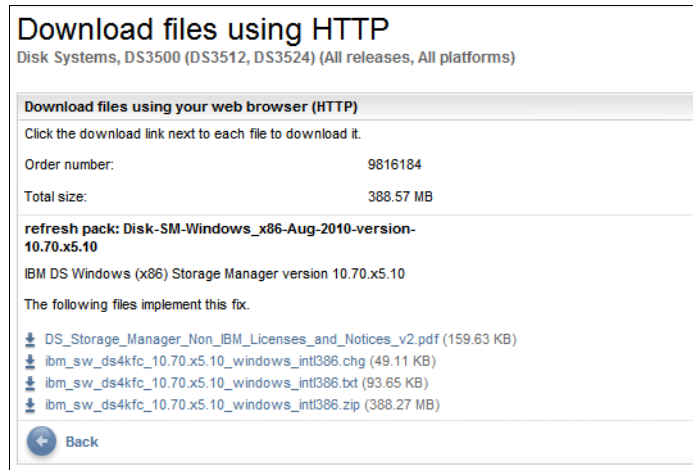

Figure A-15 Download files using HTTP
6. If you choose to download using your browser (HTTP), a website similar to the one shown in Figure A-15 on page 727 displays.